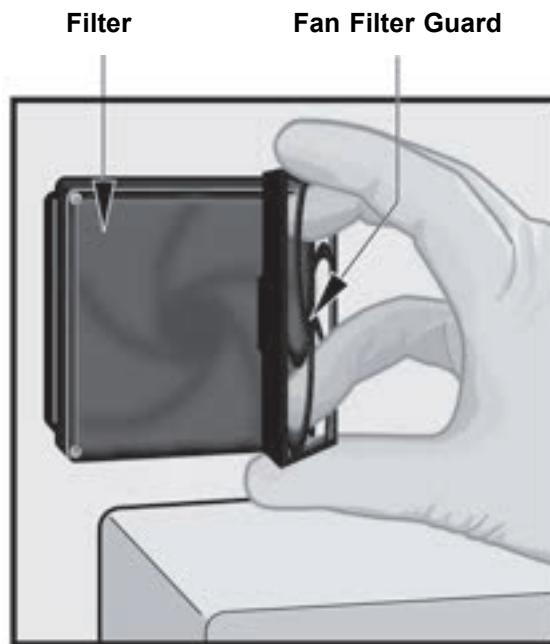

Figure 9-22. Removing the Fan Filter Guard and Filter
4. Gently take the fan filter guard off by unsnapping the guard from the fan housing. See Figure 9-22 and place it aside for the remainder of the procedure for filter removal and cleaning.